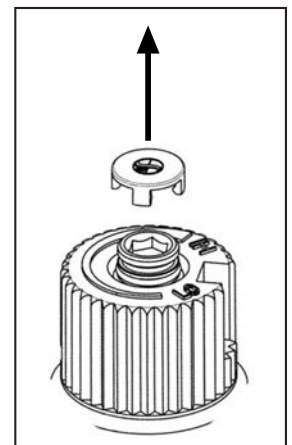

Figure 10: Removing valve cap.
- c) Remove the black protection cap from the HI/LO knob by hand shown in Figure 10.
- h) Re-attach the black protection cap that was removed in step "c)". Refer to Figure 10.